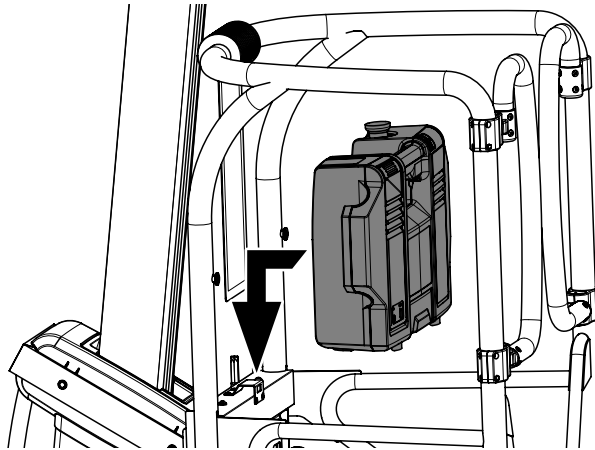

Figure 3-12. Powerpack positioned and latched into place
8. Place the powerpack (optional equipment) against the platform uprights, closest to the mast, and slide it down until it clicks, indicating it is fully seated (see Figure 3-12.).